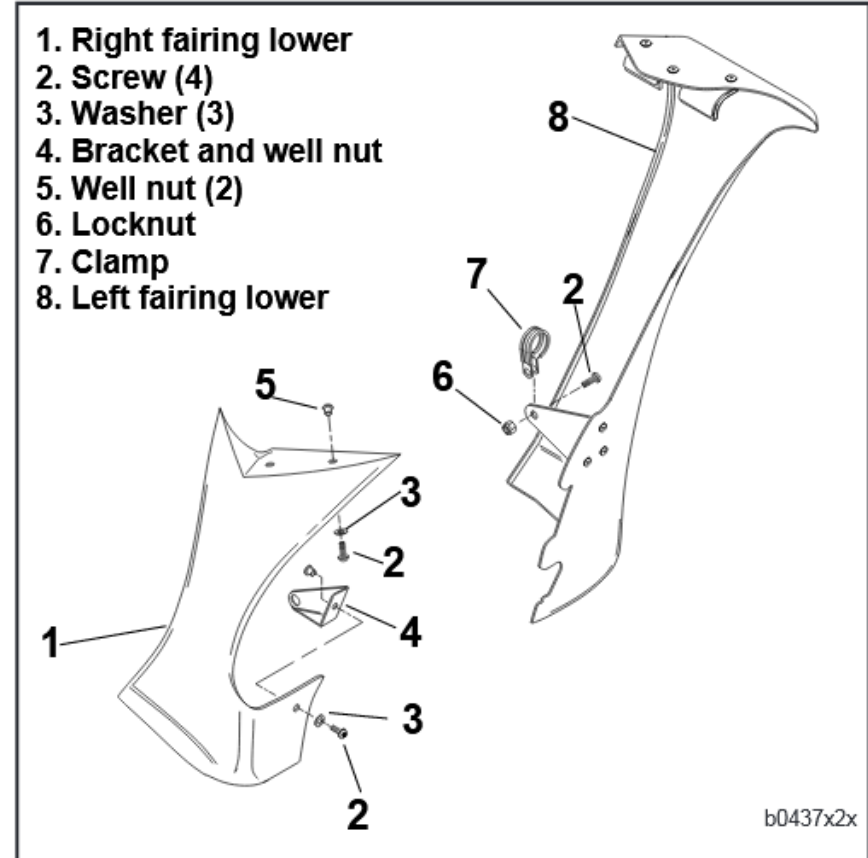

Figure 1. Fairing Lower
1. See Figure 1. Place right fairing lower in position and install screw (2) and washer (3) to hold bottom of fairing lower on lower bracket. Place top of right fairing lower in position on air cleaner cover and mark outline around top of fairing lower.
5. See Figure 1 and 3. Install bottom screw (2) and washer (3).
1. Refer to applicable Service Manual and remove fuel tank mounting screw. See Figure 1. Gently lift fuel tank and insert left fairing lower (8) lip over frame tube.